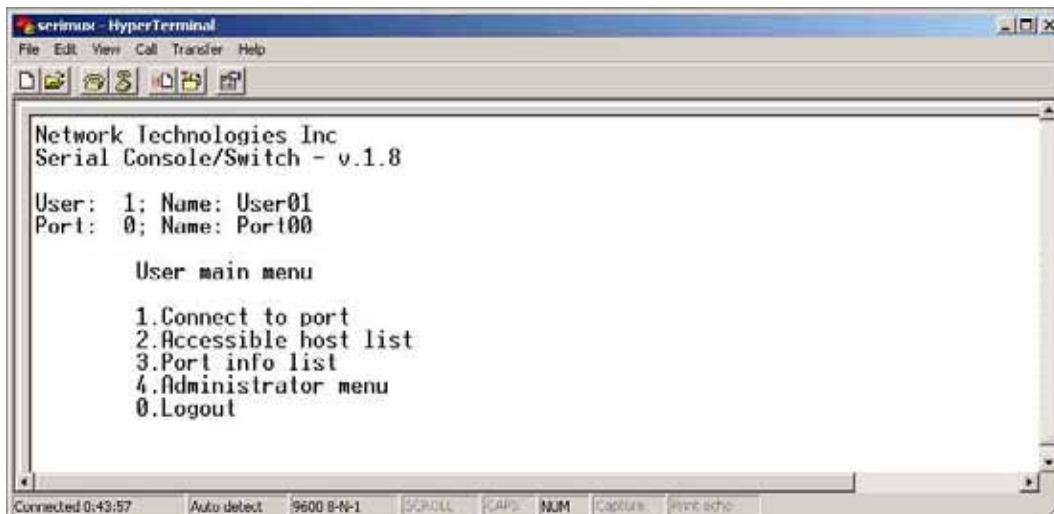

Figure 21- User main menu
1. Press and hold the "RESET" button using a small object that will fit through the hole in the back of the SERIMUX. (See Fig. 21).